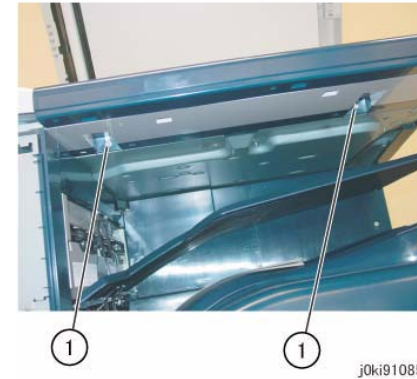

Figure 3 Remove the screws
7. Remove the screws that secure the Control Panel. (Figure 3)